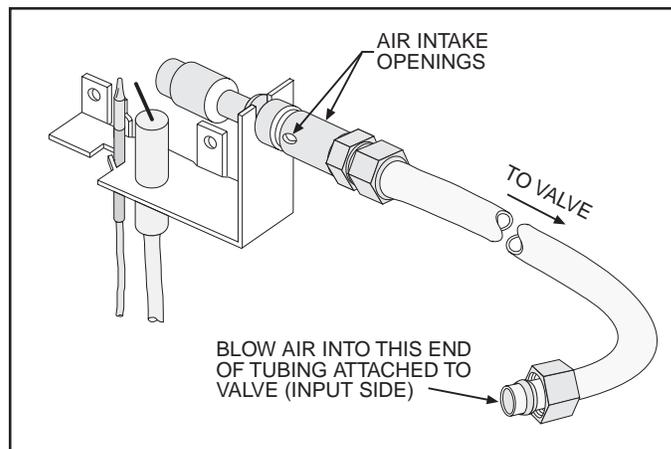

Figure 28
2. Clean out both Air Intake Openings (See Figure 28) by lightly brushing around the Openings while vacuuming. Note: It is very important that the Air Intake Openings be kept clear of debris. Should the Openings become blocked, the pilot system will not operate properly.
6. Insert the flexible nozzle of the compressed air duster and blow air into the input end of the pilot gas line to remove any blockages. (See Figure 28). **Do not blow air directly into the pilot opening. Blow air in the direction of the gas flow.**